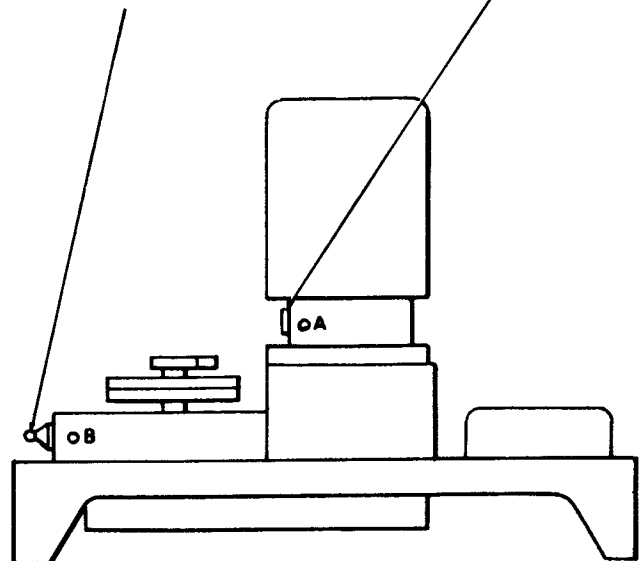

Figure 3-21. Coder-Indicator Identification Keyer, Lubrication Points
Step 2. Fill gear box with grease, Military Specification MIL-G-3278. Using a grease gun, feed grease through grease fittings shown in figure 3-21. Fill oil cup with oil, Military Specification MIL-L-6085.